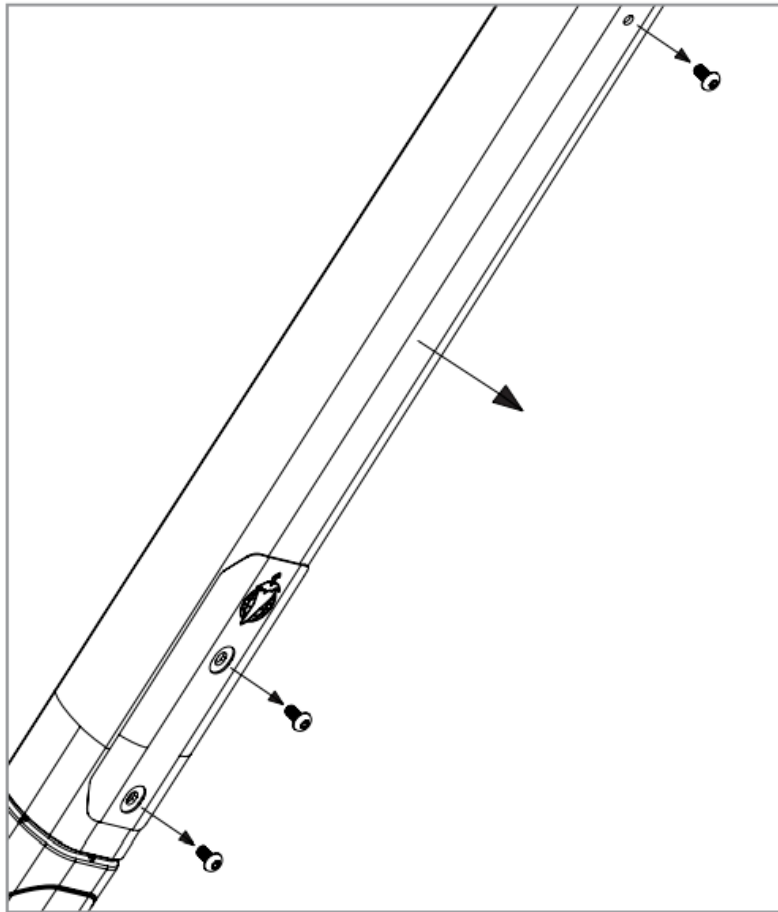

Figure 11
6. After the system cables are disconnected and moved out of the way, use a T25 torx wrench to remove the bolts from the underside of the down tube (Figure 11).